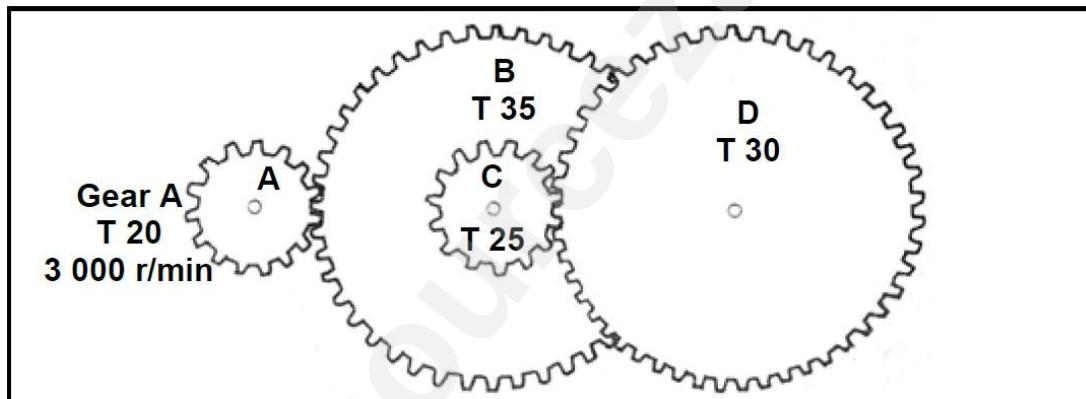

Figure 4.1
4. Study FIGURE 4.1 below. The gear box of a motor vehicle is in second gear. The input shaft rotates at 3 000 r/min. The input shaft is equipped with driver gear A with 20 teeth, which mesh with gear B with 35 teeth. The second acceleration gear C on the countershaft has 25 teeth and meshes with the final driven gear D with 30 teeth.